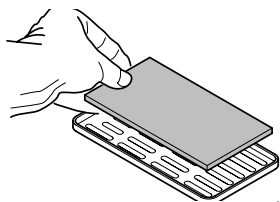

Fig.23
3. Remove the filters (Fig. 23/2).